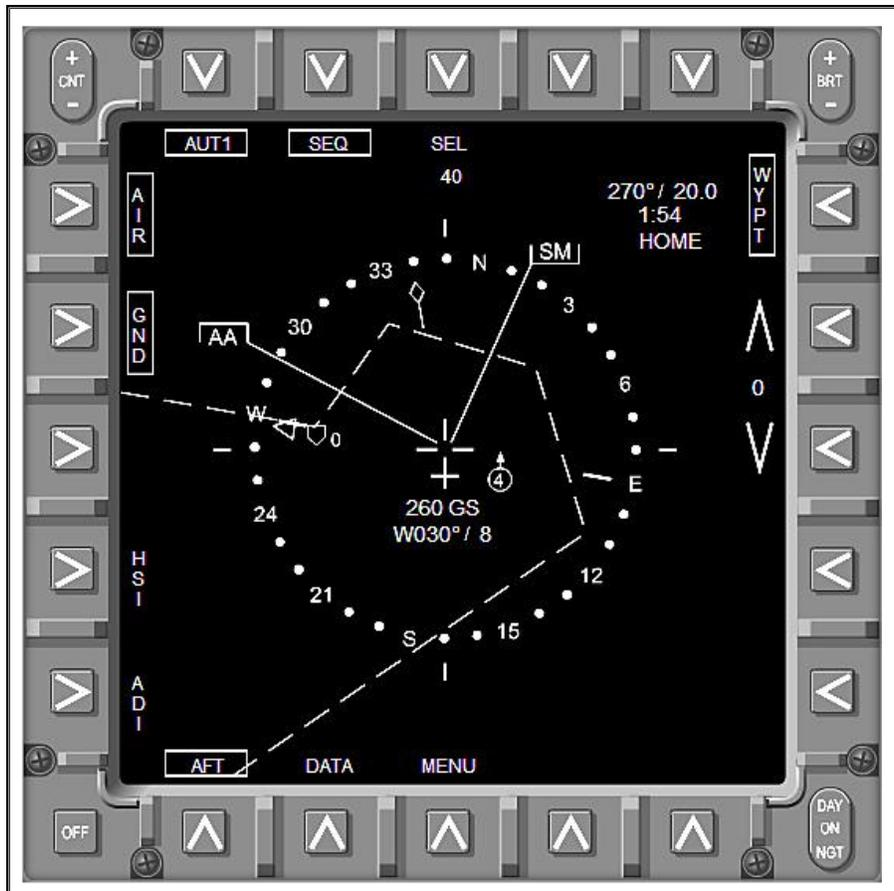

Figure 3-17 SA Page, Displays Surface and Air Threats
- i. Aircraft Heading – top center of attack display (Heading 000 in Figure 3-17)